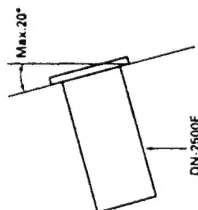

Figure 5
- The DN-2500F will work normally when the main unit is mounted with the front panel within 20 degrees of the vertical plane. If the unit is tilted excessively, discs may not load or unload properly. (Figure 5)